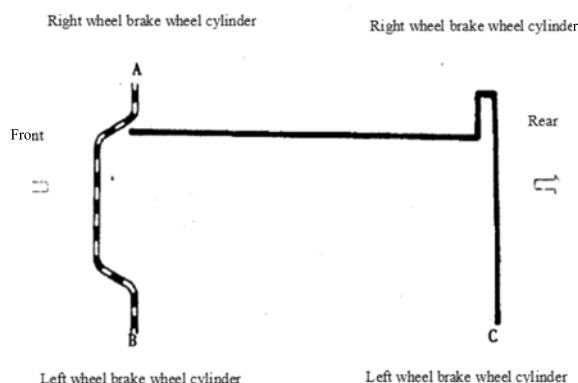

Fig.3.7-30
- ① If the brake hose of the front wheel brake pipe or hoses are separated, air in the left and right front wheel brake system must be exhausted.
- ② If the rear wheel brake pipe or brake pipe or hose on brake wheel cylinder are separated, air in the left and rear brake wheel cylinder must be exhausted.
- ③ However, if there is air in the brake master cylinder, brake oil cylinder, hose, five body and the hydraulic system, air shall be exhausted through the parts of "A", "B" and "C" as is indicated in Fig.3.7-30 from the hydraulic system. The exhaust shall start from the brake wheel cylinder which is the farthest from the brake master cylinder. The steps are as follows,